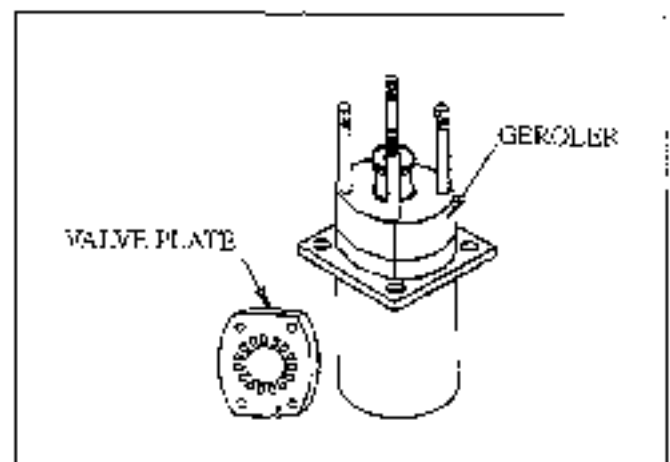

Figure 43
- Install the geroler assembly as shown in Figure 43.